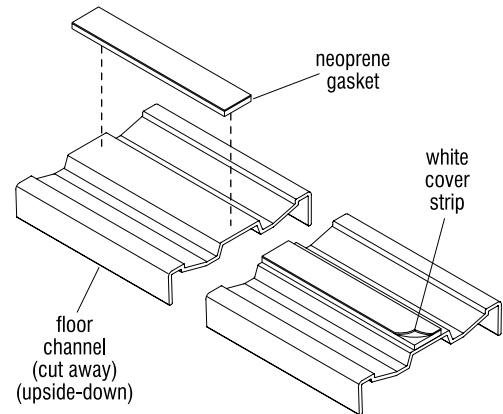

Figure 2 - Evoke Floor Channel
8. Repeat steps 4 through 7 above to add floor channel between posts where other Evoke Wall panels will install (Figures 2 & 3).